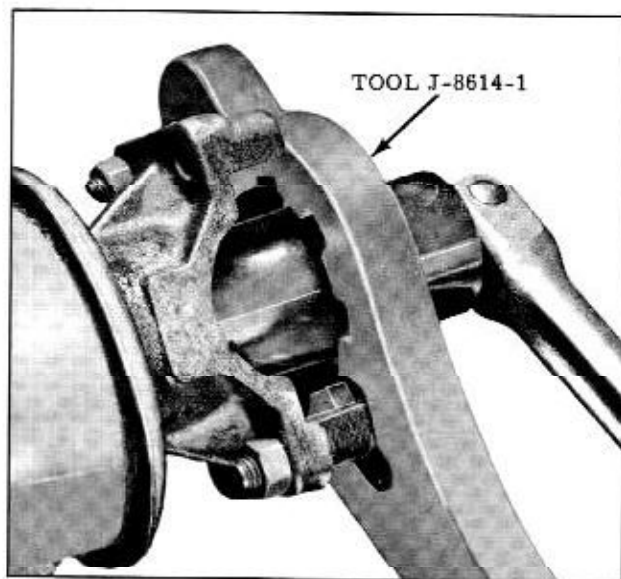

Figure 6-2 Removing Pinion Nut
2. Attach Tool J-8614-1 (Fig. 6-2), (notches toward flange). Center on flange with Tool J-8614-2. Flange holding tool to flange bolts
3. Install companion flange and torque nut to 200 ft. lbs. Use Tool J-8614 to hold flange while tightening nut. (Fig. 6-2)